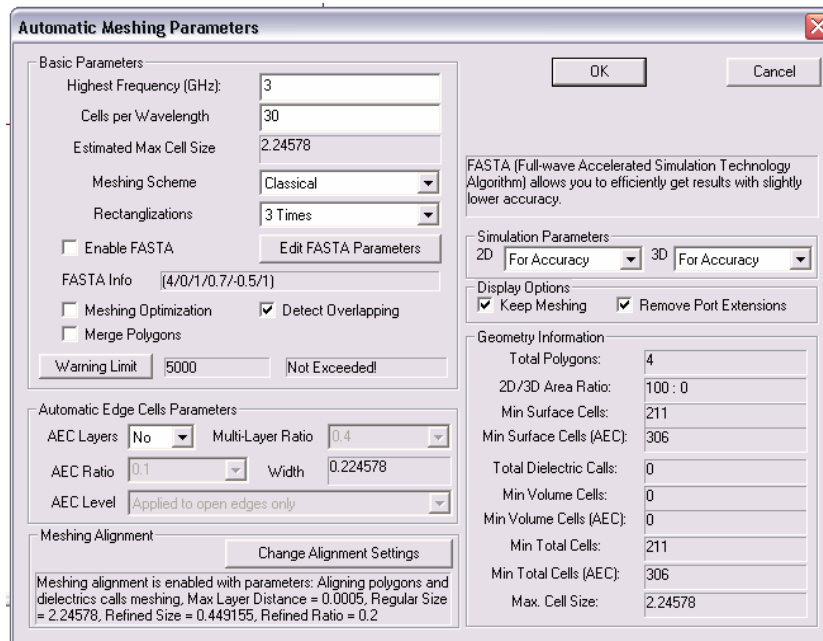

Figure 20.
22) The next step is to run the simulation. However, before that, let us first mesh the structure; this mesh is used in the Method of Moment (MoM) calculation. Press the “Display Meshing” button (  ). The “Automatic Meshing Parameters” menu pops up. This menu is shown in Figure 20.
- 24) Note that in meshing this structure, we did not use edge cells. As seen in Figure 20, in the “Automatic Edge Cell Parameters” fields, the “AEC Layers” field shows “NO”. You can define edge cells to increase the accuracy of the simulations. In coupled structures or in structures where multiple trace lines are located in close proximity to each other, it is important to use edge cells. In this case, we will not use edge cells for this simulation.